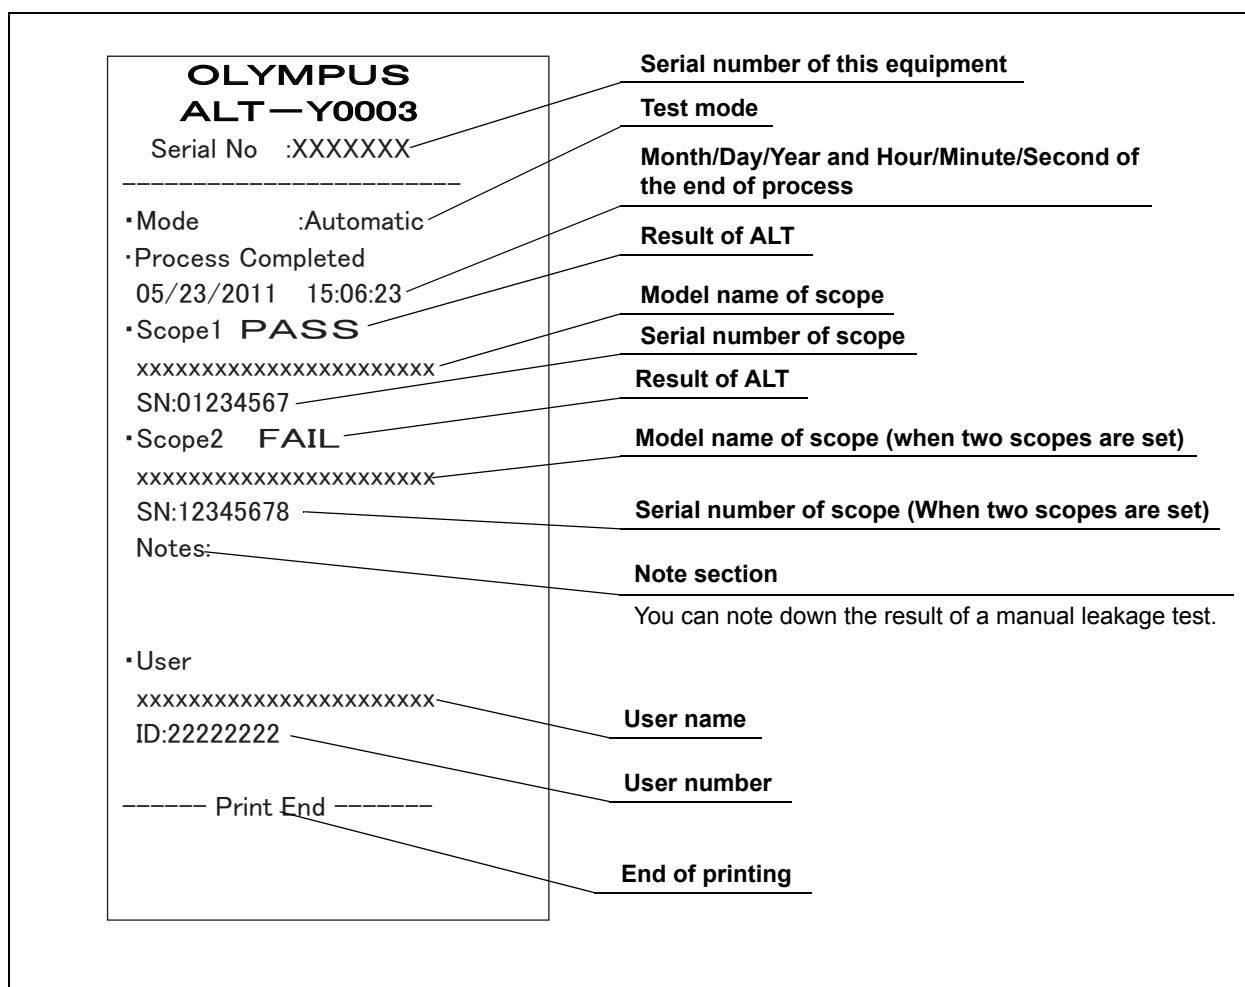

Figure 7.19
For the printed information, see Figure 7.19 through 7.22.
- For the printed information, see Figure 7.19 through 7.22.